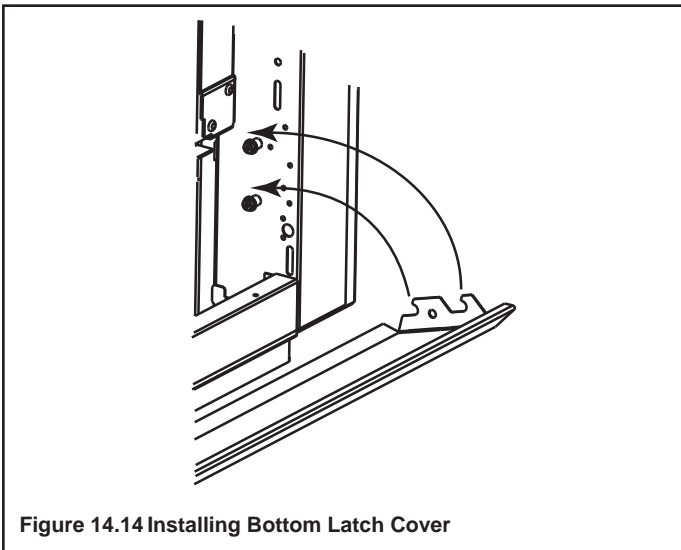

Figure 14.14 Installing Bottom Latch Cover
- Reinstall lower latch cover (see Figure 14.14).
- Insert bottom latch cover over existing shoulder screws. See Figure 14.14.